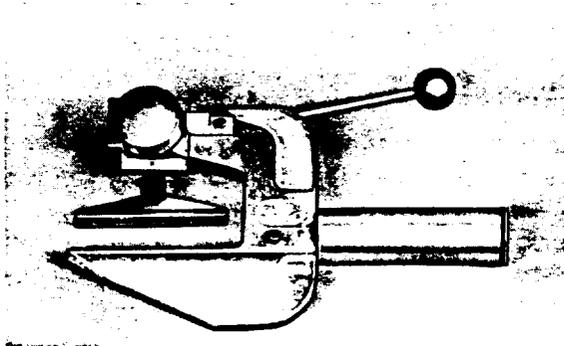

Figure 44. 851A Tool
5.09 The 851A tool (Comcode 102996212, Figure 44) is a hand-held lever action closing tool which is used to press the connector module into the mating receptacles.